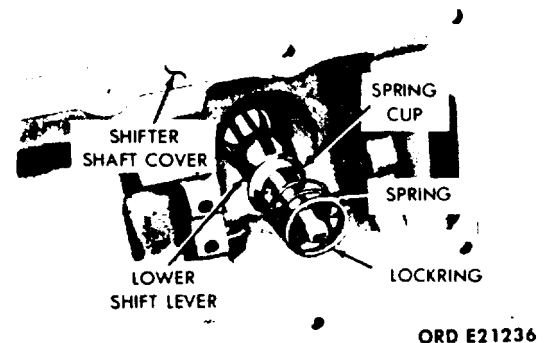

Figure 3-46. Removal of Lower Shift Lever, Lever Spring, and Spring Cap
(2) Slide the lower shift lever into cover at fulcrum pivot pins. Install lower shift lever, cup, spring, and lockring. (See fig. 3-46.)